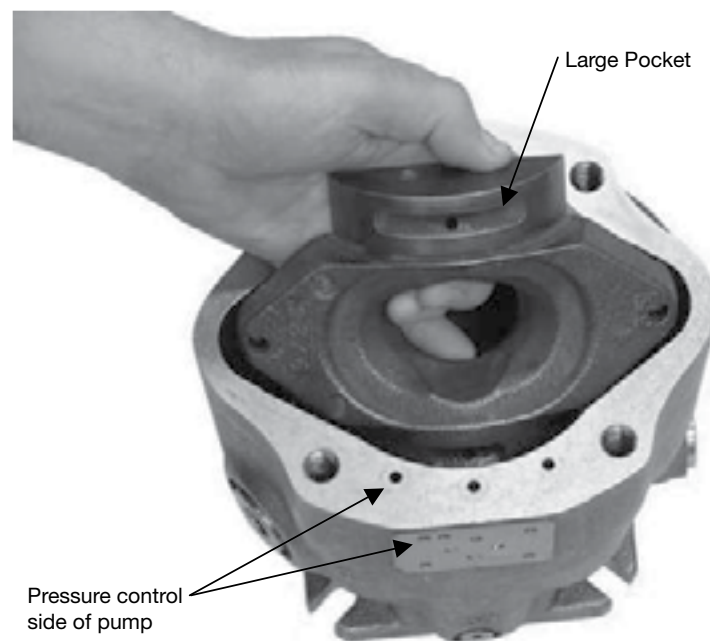

Figure 2
9. Remove cam from housing. See Figure 2.
12. Place thin film of clean oil on cam bearing surfaces. Install cam in housing. For 045, the cam must be tilted to permit entry into the housing. (Figure 2).